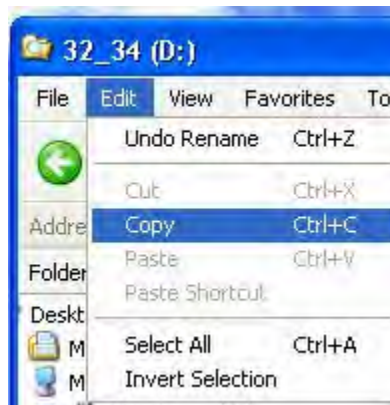

Figure 1-75. Explorer Window – Copy All Folders
6. On the menu bar, select **Edit** and **Copy** (Figure 1-75).